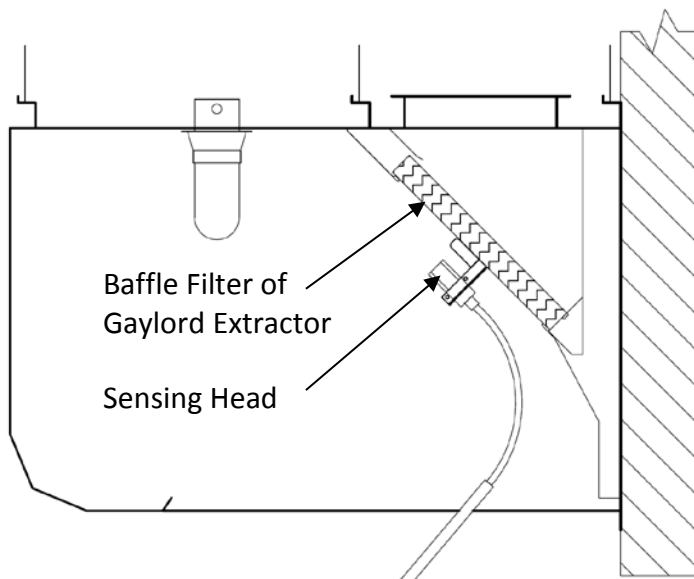

Figure 4-2-3
8. Beginning at the left Baffle Filter or Extractor, called Filter No. 1, place the standoff or sensing head directly against the face of the Baffle Filter/Gaylord Extractor as shown in Figure 4-2-3.